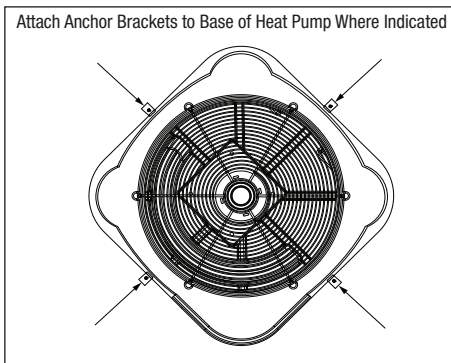

Figure 1. Anchor Clamp Positions
2. Place the clamps at the base of the heat pump in the locations indicated in *Figure 1*.